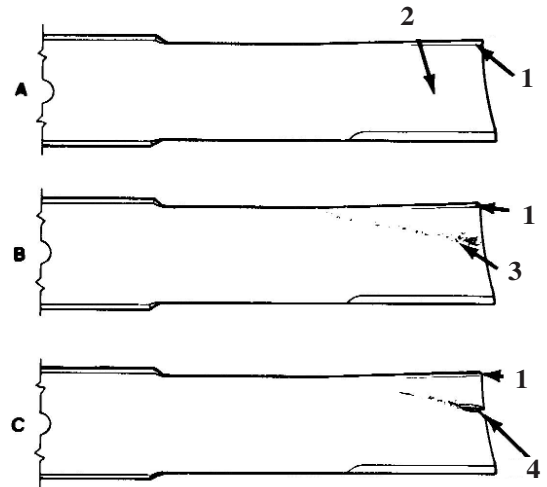

Figure 13
Inspecting And Sharpening The Blade (Fig. 13–14)
2. Examine the cutting ends of the blade carefully, especially where the flat and curved parts of the blade meet (Fig. 13-A). Since sand and abrasive material can wear away the metal that connects the flat and curved parts of the blade, check the blade before using the machine. If you notice wear (Fig. 13-B), replace the blade; refer to Removing The Cutter Blade.
If the blade is allowed to wear, a slot will form between the sail and flat part of the blade (Fig. 13-C). Eventually a piece of the blade may break off and be thrown from under the housing, possibly resulting in serious injury to yourself or a bystander.